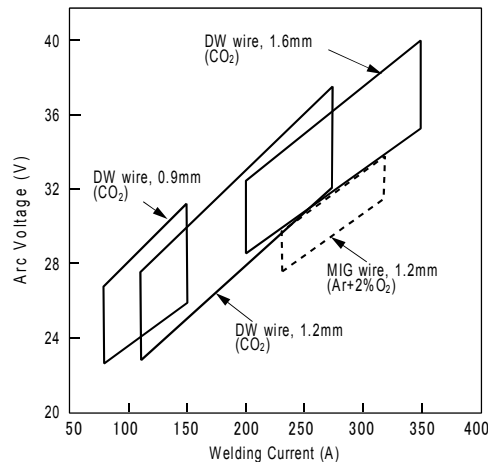

Fig. 2 Proper ranges of welding current and arc voltage
- (2) DW stainless wires offer a wider range of current and voltage in comparison with solid wire as shown in Fig. 2, which facilitates easier application for both semi-automatic and automatic welding.
- (3) DW stainless series has excellent usability and weldability with stable arc, low spatter, good slag removal, smooth bead appearance, and high X-ray soundness.